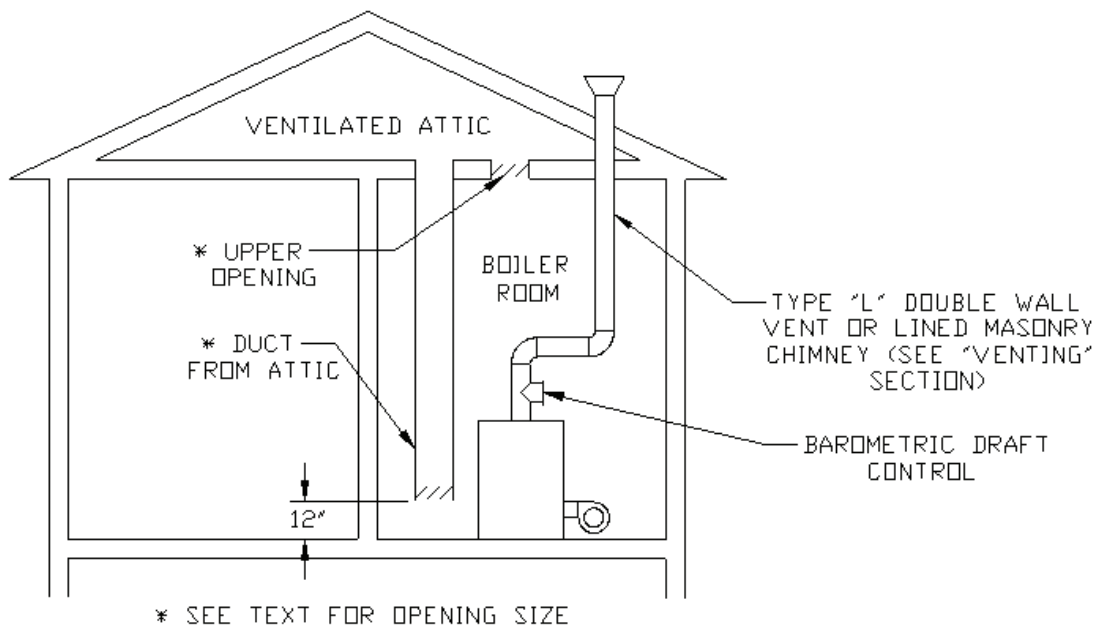
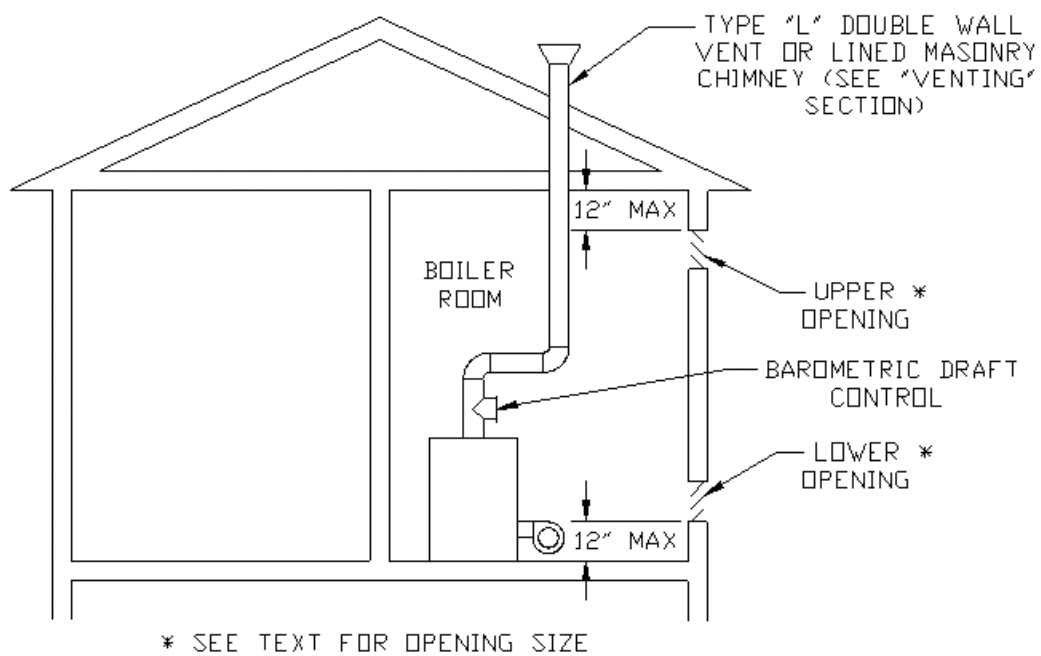

FIGURE 6.2: ALL AIR FROM OUTDOORS, VIA VENTILATED ATTIC
FIGURE 6.3: ALL AIR FROM OUTDOORS, USING OPENINGS INTO BOILER ROOM
- Vertical ducts or openings directly outdoors (Figure 6.1, Figure 6.2, and Figure 6.3) - Each opening must have a free cross sectional area of 1 square inch per 4000 BTU/hr of the total input of all fuel fired appliances in the boiler room but not less than 100 square inches. Minimum opening size is 3 inches.